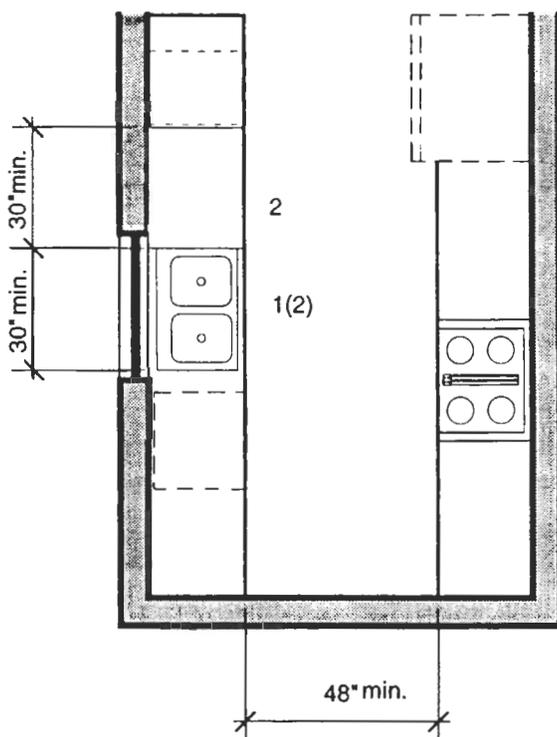

Fig. 7.1 Typical Kitchen
- 1112A Kitchens within adaptable dwelling units shall be accessible. See figures 7.1 & 7.2 on page 68.